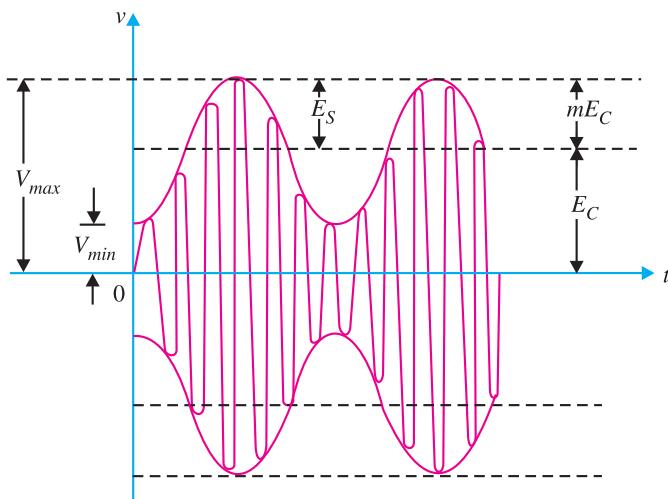

Fig. 16.4
**Solution.** Fig. 16.4 shows the waveform of amplitude modulated wave. Let the amplitude of the normal carrier wave be  $E_C$ . Then, it is clear from Fig. 16.4 that :
If  $E_S$  is the signal amplitude, then it is clear from Fig. 16.4 that :